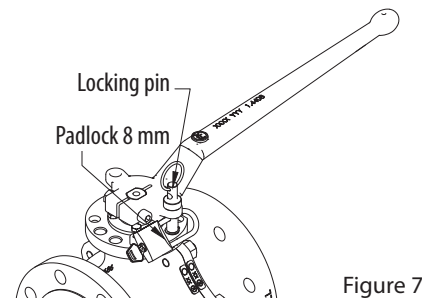

Figure 7
2. Using padlock with 6 mm shank, insert shank thru the hole in locking pin under the hand lever ear (Figure 7).